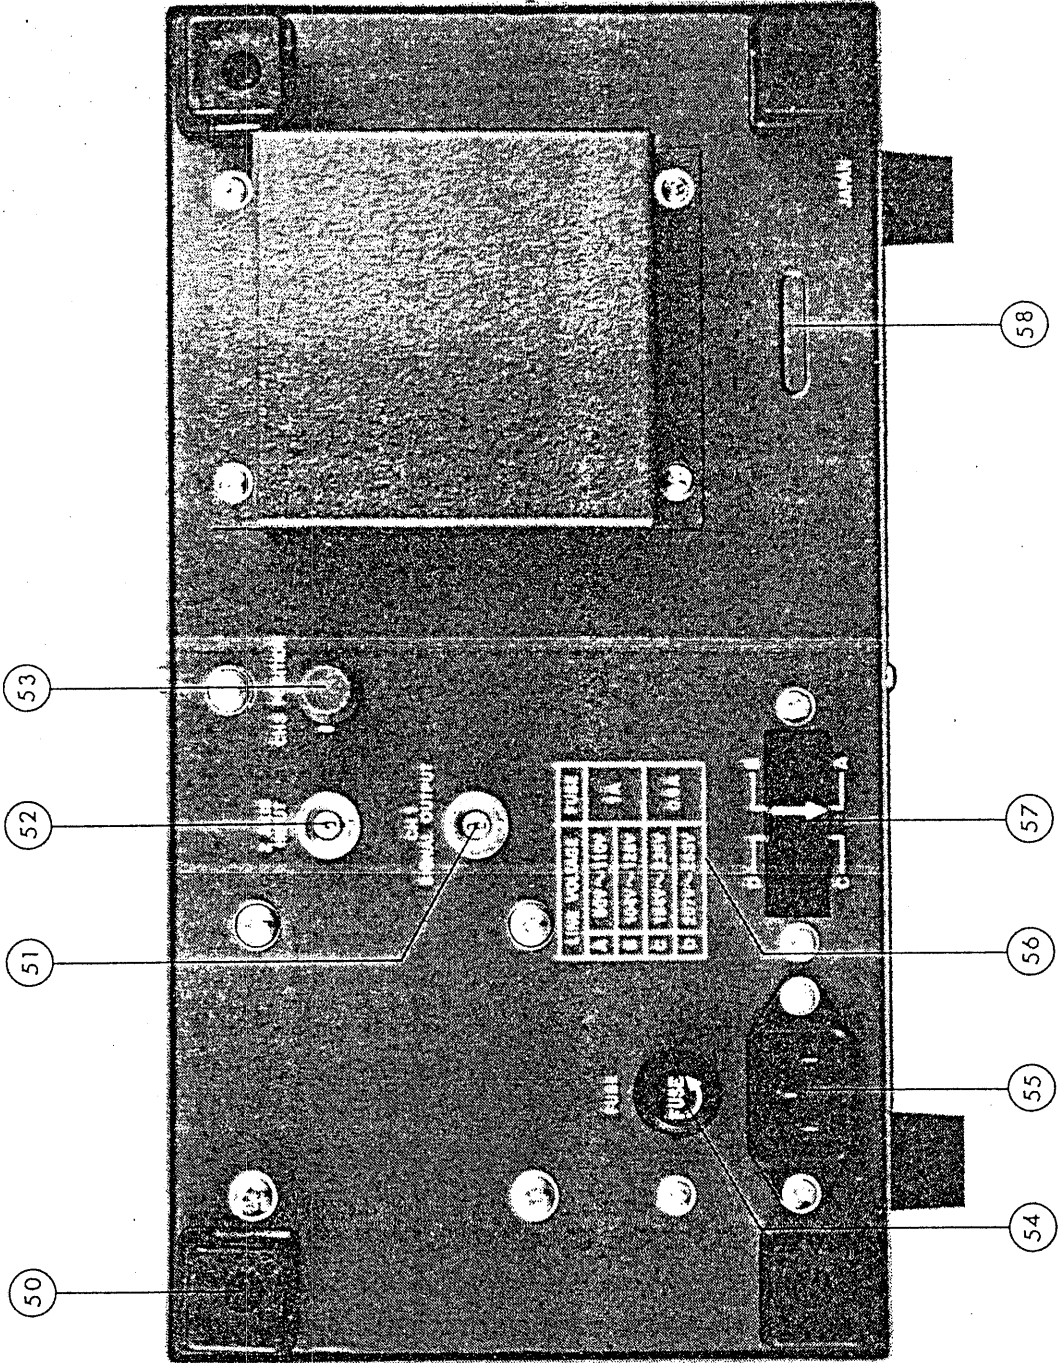

Figure 4-2
4.2 Explanation of Rear Panel (See Figure 4-2.)
- o CH1 SIGNAL OUTPUT ... (51) This output terminal provides CH1 signal which can be fed to a frequency counter, etc.
- Z AXIS INPUT (52) Input terminal for a external intensity modulation signal. Binding post terminal with 19-mm (0.75 in.) spacing.
- o CH3 POSITION (53) POSITION CONTROL for CH3, INT or EXT TRIG VIEWING.